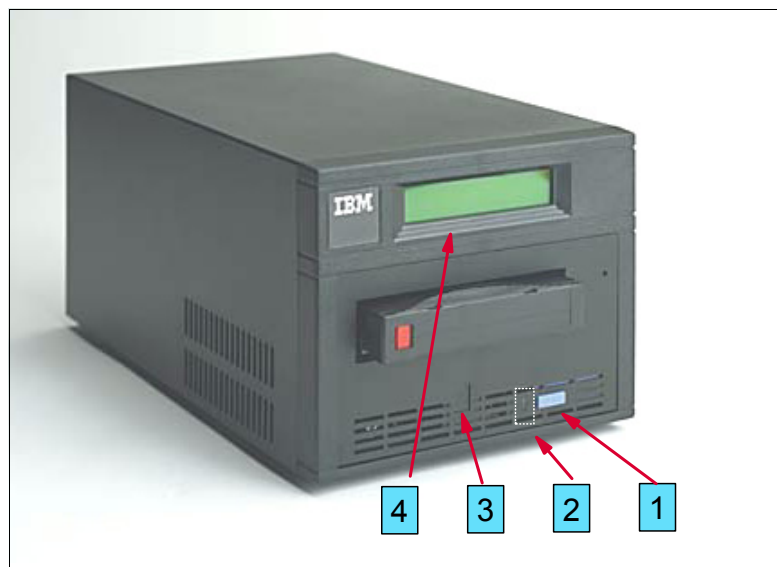
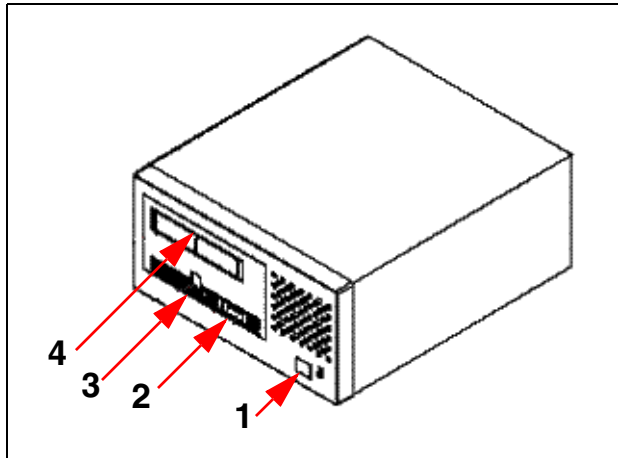

Figure 14-4 Front view of the IBM 3580 model L11/L13/L23 or H11/H13/H23 Tape Drive
Figure 14-5 Front view of the IBM 3580-L33/L3H Tape Drive
The status light (labeled 2 in Figure 14-4 on page 413 and Figure 14-5 on page 414) provides information about the state of the IBM 3580. The light can be either green or amber (yellow), and, when lit, either solid or flashing. These are the possible conditions of the status light and an explanation of what each condition means:
- ▶ Green/solid: The IBM 3580 Tape Drive is idle, or if C displays simultaneously in the single-character display (see label 3 in Figure 14-4 on page 413 or Figure 14-5 on page 414), it needs cleaning.
The message display (labeled 4 in Figure 14-4 and Figure 14-5 on page 414) is a liquid crystal display (LCD) that provides information about the status of the tape drive and error conditions.
The IBM 3580 features a light-emitting diode (LED) display (labeled 3 in Figure 14-4 and Figure 14-5 on page 414). The LED presents a single-character code for:
The Power push button (labeled 1 in Figure 14-5) turns the tape drive on or off. The button is located on the front panel. When the Power Button is in the off position, the primary electrical power within the enclosure is still active. To remove all electrical power to the enclosure, unplug the power cord at the rear of the drive from the receptacle.